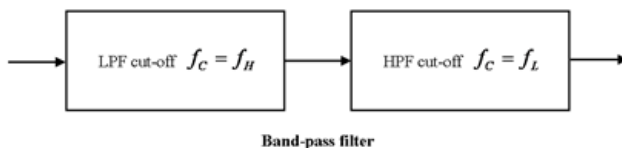

Figure 2: Realization of a band-pass filter
- Wide-BPF can be realized by cascading a low-pass and a high-pass filter as shown in figure 2. This method is not economical in terms of use of components, and also when the bandwidth is narrow.